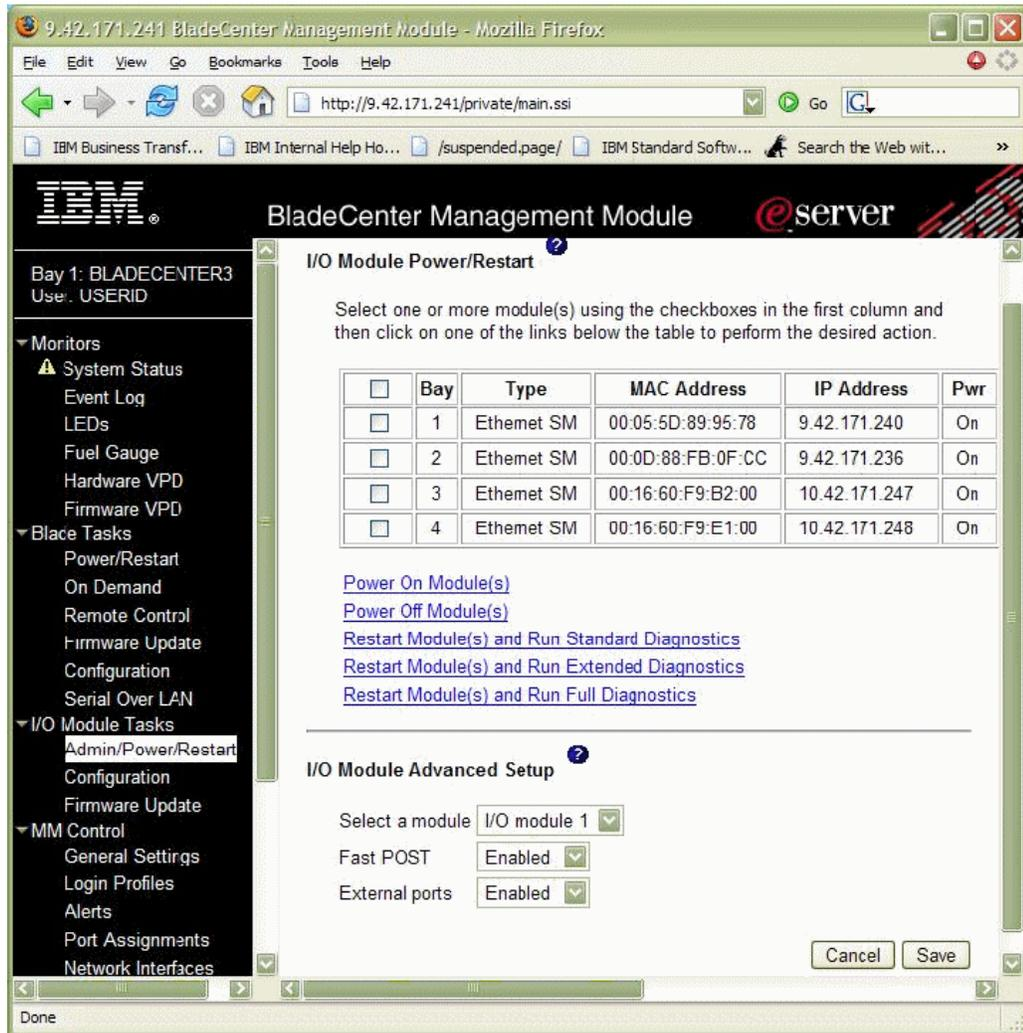

Figure 2-2 BladeCenter Management Module - Admin/Power/Restart window
- a. Log in with admin privileges to the Management Module using the browser (Internet Explorer or Firefox). From the BladeCenter Management Module window, click **I/O Module Tasks** → **Admin/Power/Restart**. You will see a window similar to Figure 2-2.